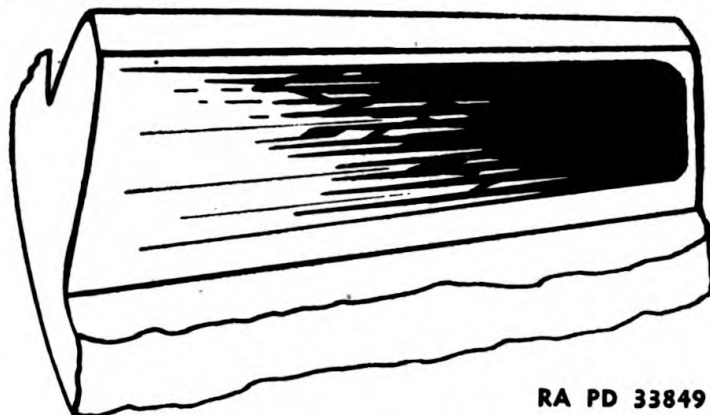

FIGURE 132.—Correct bevel gear tooth contact area.
(1) Adding or removing shims at the front of the pinion shaft to move the pinion forward or backward.
(2) Moving the bevel gear to the right or left by loosening the spanner nut on one side of the bevel gear and tightening the other. Shims .010 inch and .005 inch thick are located between the front bearing and a spacer at the front of the bevel pinion shaft.
c. The correct tooth contact adjustment (fig. 132) has been obtained when the tooth contact is over at least three-fourths of the tooth length at the toe or small end of the tooth. When the contacting area of the teeth has been properly set, a backlash clearance of from .008 inch to .012 inch should exist between a new gear and pinion at the tightest spot. Approximately .015 inch backlash is suitable for gears that have been in service.